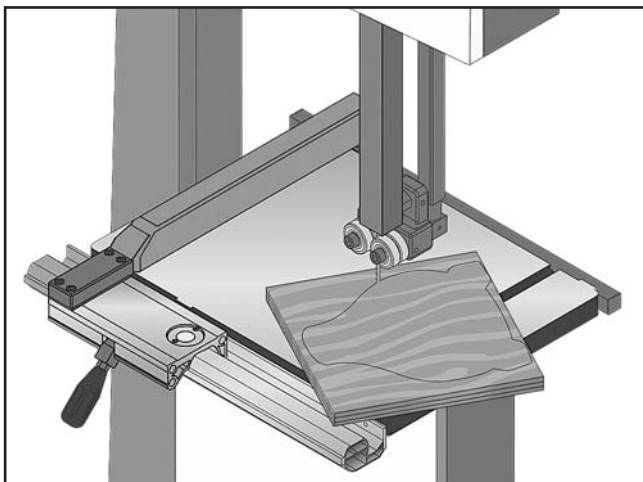

Figure 55. Typical stacked cut.
5. Cut the stack of pieces as though you were cutting a single piece. Follow your layout line with the blade kerf on the waste side of your line (see **Figure 55**).